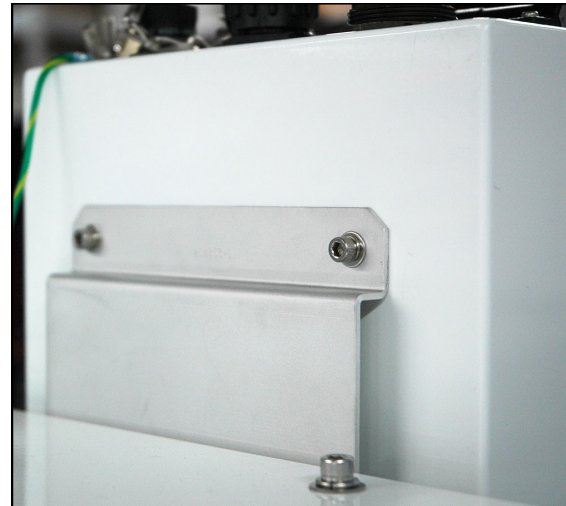

Figure 2-18: Attach Controller to Mounting Bracket
Attach the controllers to the mounting brackets using four (4) each 10-32 x 0.375 socket head cap screws, lock washers and flat washers. See **Figure 2-18**.